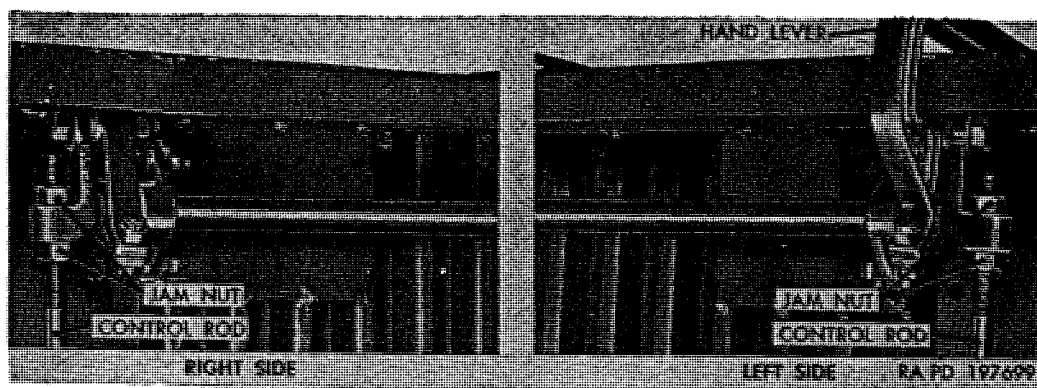

Figure 352. Body end gate latch adjustment.
b. Adjustment (fig. 352). End gate lower latches must be properly adjusted to hold end gate tight when using as a dump body, also lower latch is used as a hinge when end gate is lowered. Whenever end gate lower latches do not grip end gate hinge pin tightly, need of adjustment is indicated.
- (1) Loosen rear jam nut at front end of each control rod at right and left sides of body.
- (2) Tighten front jam nut at forward end of each control rod.
- (3) Check adjustment by operating hand lever several times and note if lever has a definite over-center feel when moved into locked position. Observe that both right and left control